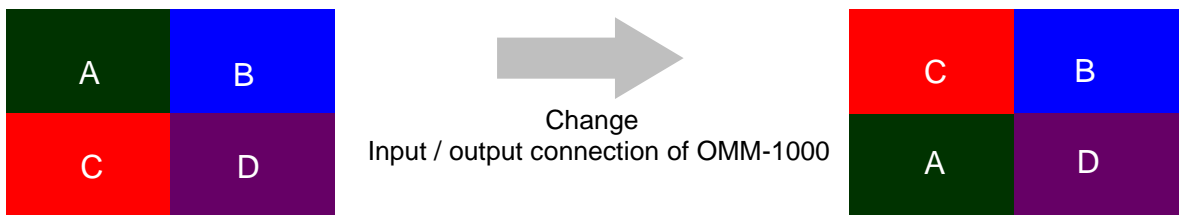

Fig 4-8 Changing widow position of layout
2. To change position of window in layout 5, 6 and 7, user must change the order of input to QDVI-O. For example, If the QDVI-O is in output slot 2, to change window position of layout 5 as shown in Fig 4-8, user must change input output connection.
In Fig 4-8, Video source A is output 5 of OMM-1000 and it is also the 1st input to QDVI-O and source C is output 7 of OMM-1000 and the 3rd input of QDVI-O. To change A and C, user makes source A be connected to output 7 of OMM-1000 (It will be the 3rd input of